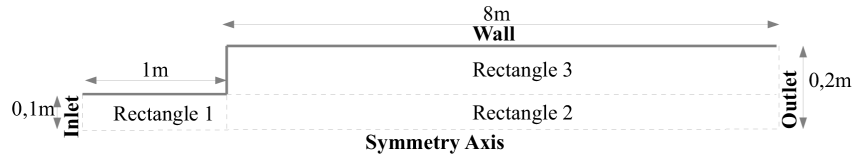
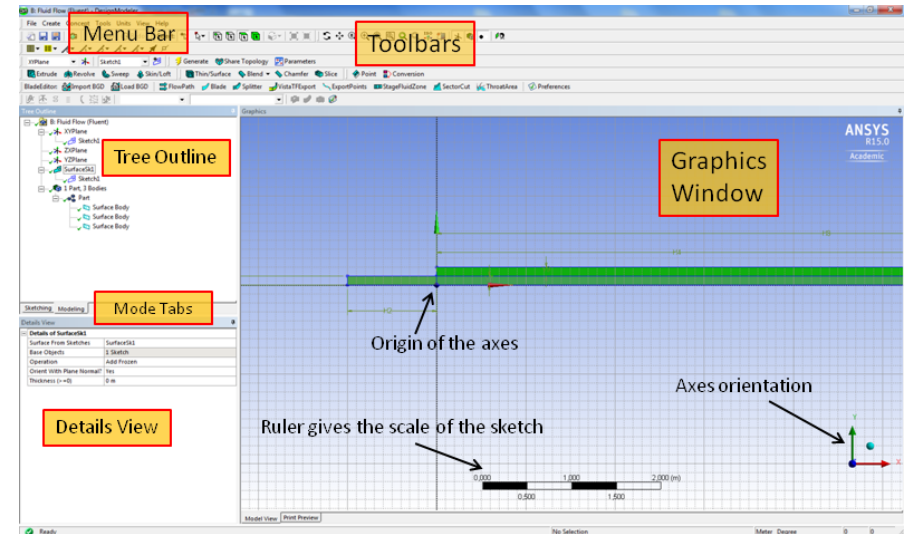

Figure 3: Computational domain and boundary conditions for the cylindrical expansion flow. The 2D computational domain is composed of 3 rectangular surfaces.
Figure 4: GUI of DesignModeler. Note that 2D geometries should be created in the XY plane. Click on the axes to change orientation of the graphics window.
According to the symmetries of the flow domain of Fig. 1, we assume that the flow is asymmetric so that it is only required to create the computational domain shown in Fig. 3. These assumptions allow us to do 2D computations instead of 3D, that will save computational time and memory space.
The graphics interface (GUI) of DesignModeler is shown in Fig. 4. The most relevant components are:
Step 1) **Sketching mode:** draw the contours of the domain in one (or several) 2D sketches. It is easier to split the computational domain in several elementary entities (like the 3 rectangles of Fig. 3) and draw them separately.
Apply now this strategy to create the domain of Fig. 3. In the same sketch sketch, you will draw each of the 3 rectangles shown in this figure, then assemble them as a unique **part** with 3 distinct **surface** bodies.
- 1) In the sketching mode, create Rectangle 1 with the Draw toolbox of Fig. 3 and set its dimensions⁴. Repeat for the other 2 rectangles. Align them as shown in Fig. 4 by using the Constraints toolbox⁵.
- 3) You should have created 3 **parts** made from the 3 **surface** bodies you have drawn (look in the **Tree Outline**). Now, to assemble the 3 bodies in the same **part**, select them all and right-click on **Form New Part**. As a result, you have created the computational domain as 1 **part** made of 3 **surfaces** bodies, as in the tree outline of Fig. 4.
Now that the meshing of the computational domain is completed, the last step before starting the CFD analysis with the **Fluent** solver is to label the boundary conditions as in Fig. 3. To perform this, click on **Model** in the **Tree Outline**, then select a boundary edge in the **Graphics Window** and insert a **Named Selection**⁸. In the **Tree Outline**, rename it as shown in Fig. 3. The label of the boundary edges will be recognized by **Fluent** and the corresponding boundary condition will be applied.